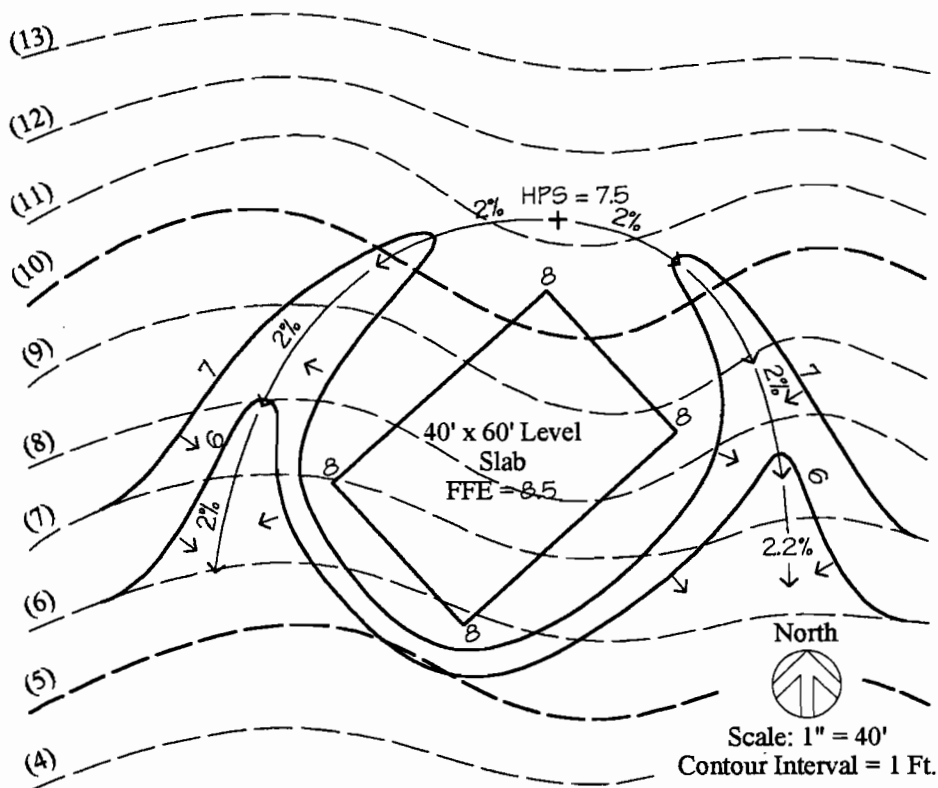

Figure 4-32. Adding Contour 6
- Step 5.** Add the next lower contour, which in this example will be contour 6. Begin by determining the points where it is to cross the flow line. As noted in explanation for designing a horseshoe swale for a sloping plane surface, to save time, it is suggested that these contour crossing points be “eye-balled”. The result of doing this is illustrated in Figure 4-32, where the flowline grade on the east side is not a straight grade — it begins at the highpoint swale at 2%, then increases to 2.5%. As mentioned earlier, this is perfectly acceptable unless the problem statement specifically requires a straight grade. Again, the flow line grade must fall within the prescribed slope range, which is typically a minimum slope of 2% and a maximum slope of 10% (as always, verify all criteria with the problem statement). Once the crossing points have been established, draw contour 6, keeping it at least 5 feet away from contour 7. Review Figure 4-32. Again, remember that there is no one correct solution; moving the contour crossing points in either direction would alter the overall appearance of the solution, but not its functionality — or correctness. This completes the swale itself, which leaves the front and back slope areas to grade.